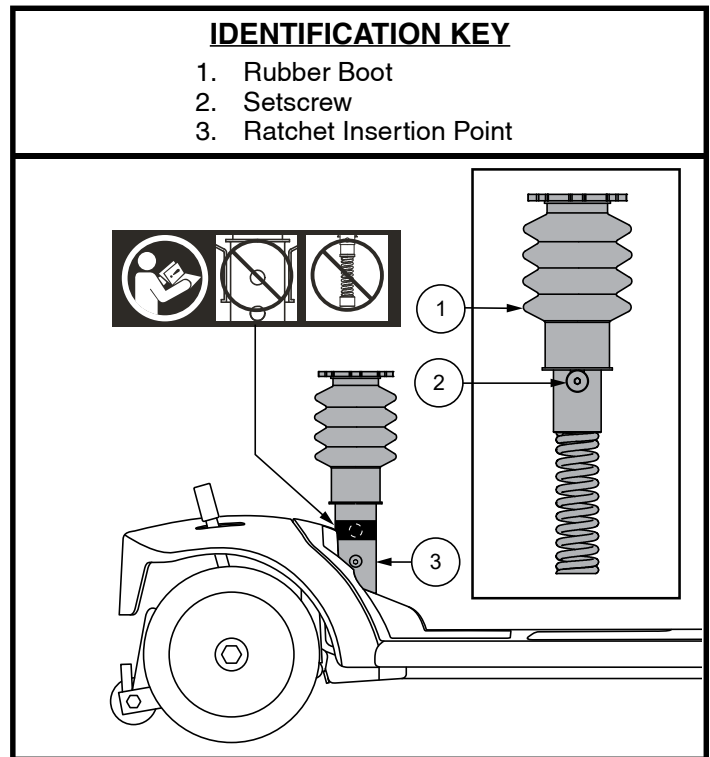

Figure 14. Seat Suspension Adjustment
TILLER ANGLE ADJUSTMENT (See figure 14)
2. Remove the upper seat post from the vehicle by removing the shoulder bolt from the lower portion of the seat post, then lifting the post straight up and off the vehicle. **See figure 14.**
NOTE: *Do not install the seat post in the upper hole with the suspension seat. See figure 14. Doing so will make the suspension seat post inoperable.*